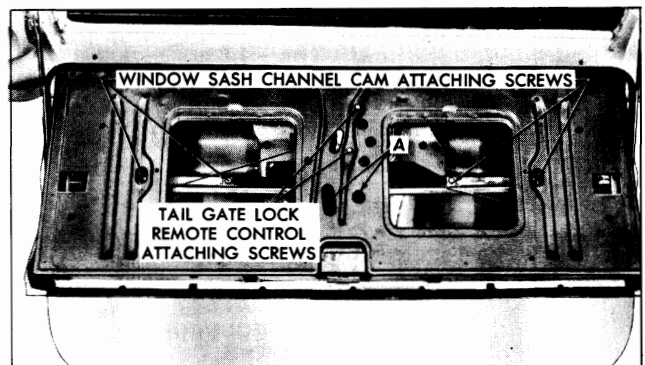

Fig. 5-10 Tail Gate Hardware
2. Detach tail gate inner panel water deflector sufficiently to gain access to window lower sash channel cam attaching screws (Fig. 5-10). Remove tail gate inner panel access hole covers.
3. Carefully operate window upward until the window lower sash right and left cam attaching bolts are accessible through access holes (Fig. 5-10).
4. Remove window lower sash channel right and left cam attaching bolts (Fig. 5-10) and disengage cams from window lower sash channel. Remove window from tail gate.
**NOTE:** If regular motor is inoperative with window more than half way down, remove inner panel left access hole cover; then remove both right and left window lower sash channel cam attaching screws (Fig. 5-10) and lift window sufficiently to gain access to motor attaching screws. Prop window in up position.